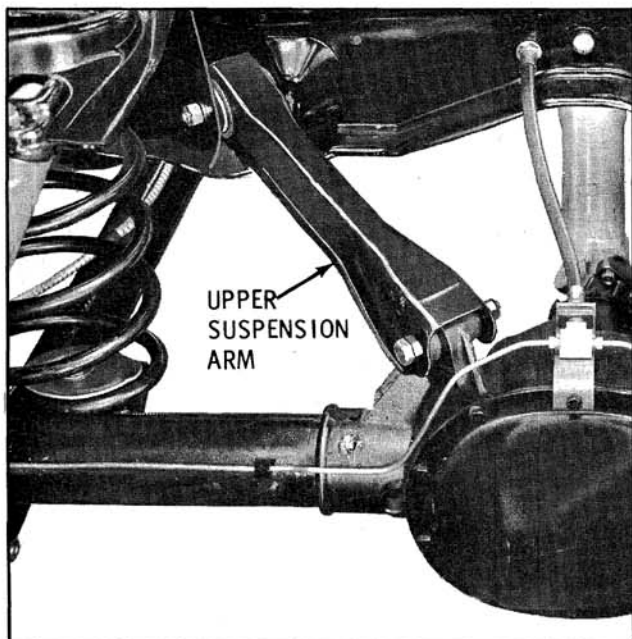

Fig. 9-142 Rear Suspension Assembly
1. Remove nut from rear arm to differential housing bolt. (Fig. 9-142)